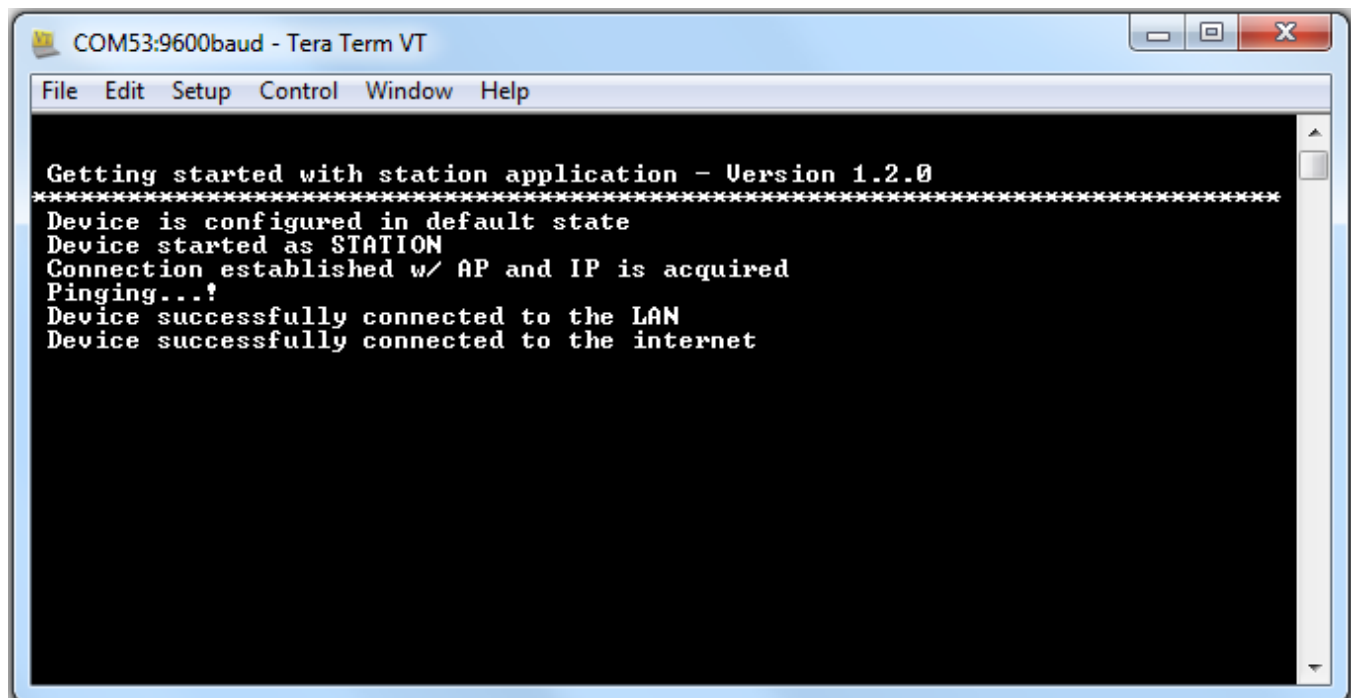

Figure 17. Tera Term VT
9. If the CC3100 successfully completes all steps, the serial output appears as shown in Figure 17.